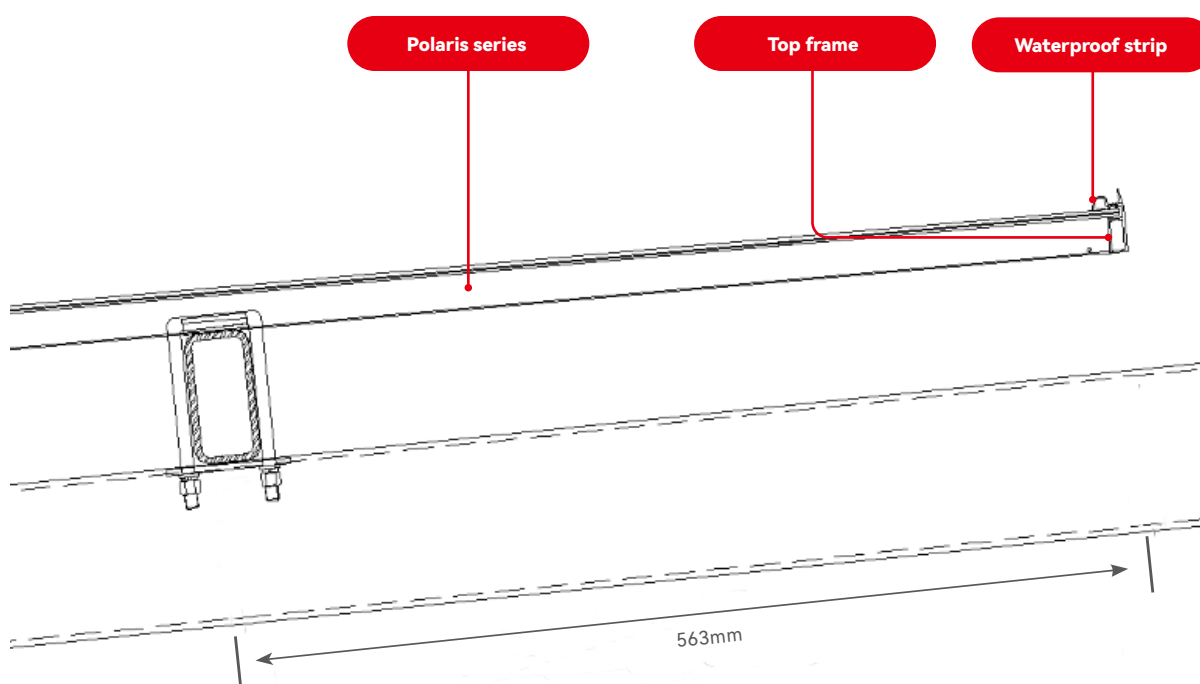

FIGURE 22
- Use tape to adhere the waterproof strip along the upper edge of the frame of the first row of products. Ensure that the edge of the waterproof strip is aligned with the upper edge of the frame (Figure 22). With this, installation of the first row of products is completed.